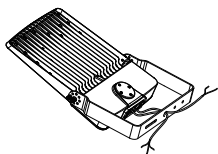

Figure 5-1
5.FLOOD MOUNTING (FM)
Step1: Pass the connecting wires of the fixture through the hole on the FM bracket, Figure 5-1;